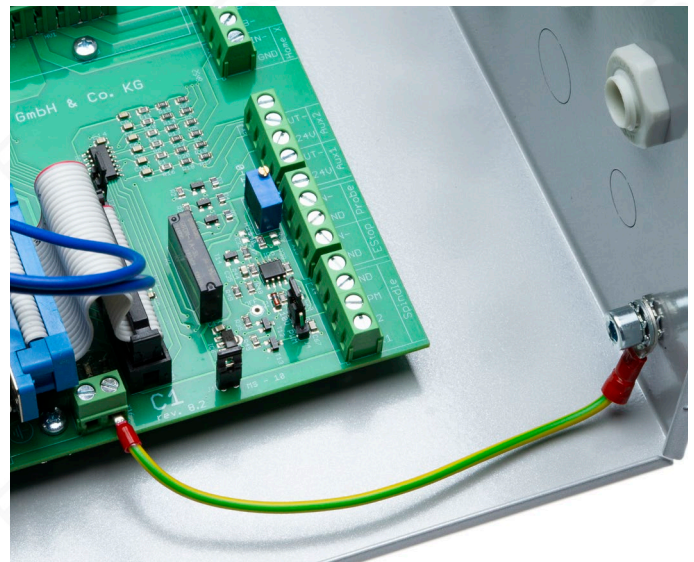

Fig. 14: Connecting the Grounding Cable
- Connect the ground cable **25** to the ground terminal, as shown in Fig. 14.